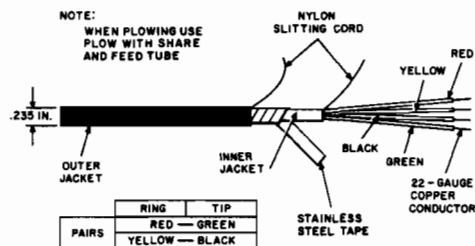

Fig. 4—F-44541 Armored Buried Wire
4.02 F-44541 armored service wire, shown in Fig. 4, consists of one quad of 22-gauge (AWG) annealed copper conductors, individually insulated with distinctively colored (red, green, yellow, and black) solid polyethylene. The insulation of the conductors is colored for purpose of identification.